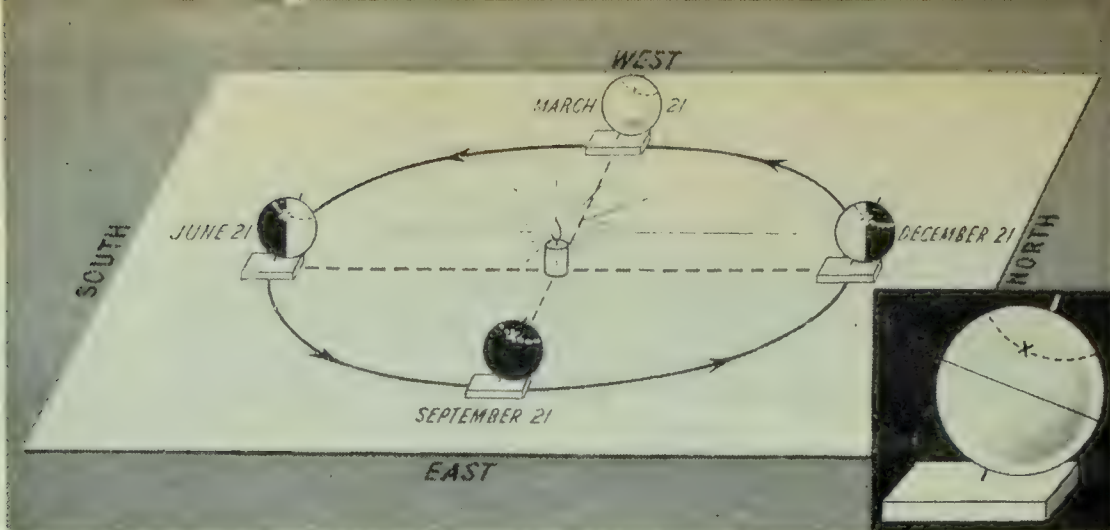

FIG. 306. Apparatus for Experiment 71. The drawing in the lower right corner shows you how to mark the latitude of the place where you live.
*Experiment 71. WHY DOES THE LENGTH OF THE DAYS AND NIGHTS CHANGE?* (a) Push a knitting needle or wire about six inches long through a tennis ball. The tennis ball is to represent the earth. Draw a circle around the ball to represent the equator. Draw another circle to show the latitude in which you live, and place an X on it to represent your city. Make a stand for the ball (Figure 306).
Now draw a circle at least two feet in diameter upon a piece of wrapping paper. This represents the earth's path around the sun. Divide the circle into quarters, as shown in Figure 306. Write the dates of the beginnings of the four seasons. Turn the paper so that the winter position is in the north, and set a lighted candle at the centre of the circle.